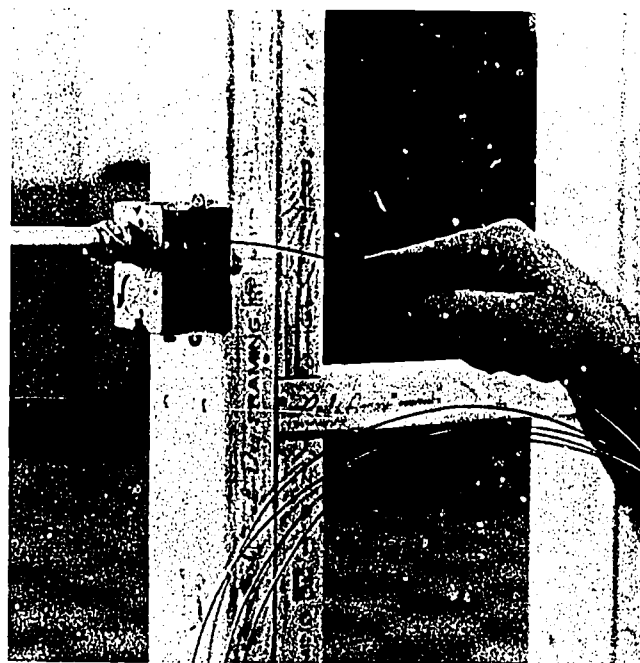

Fig. 53-8. Pushing Fish Tape Through Conduit
2. Push the fish tape all the way through the conduit. See Fig. 53-8.